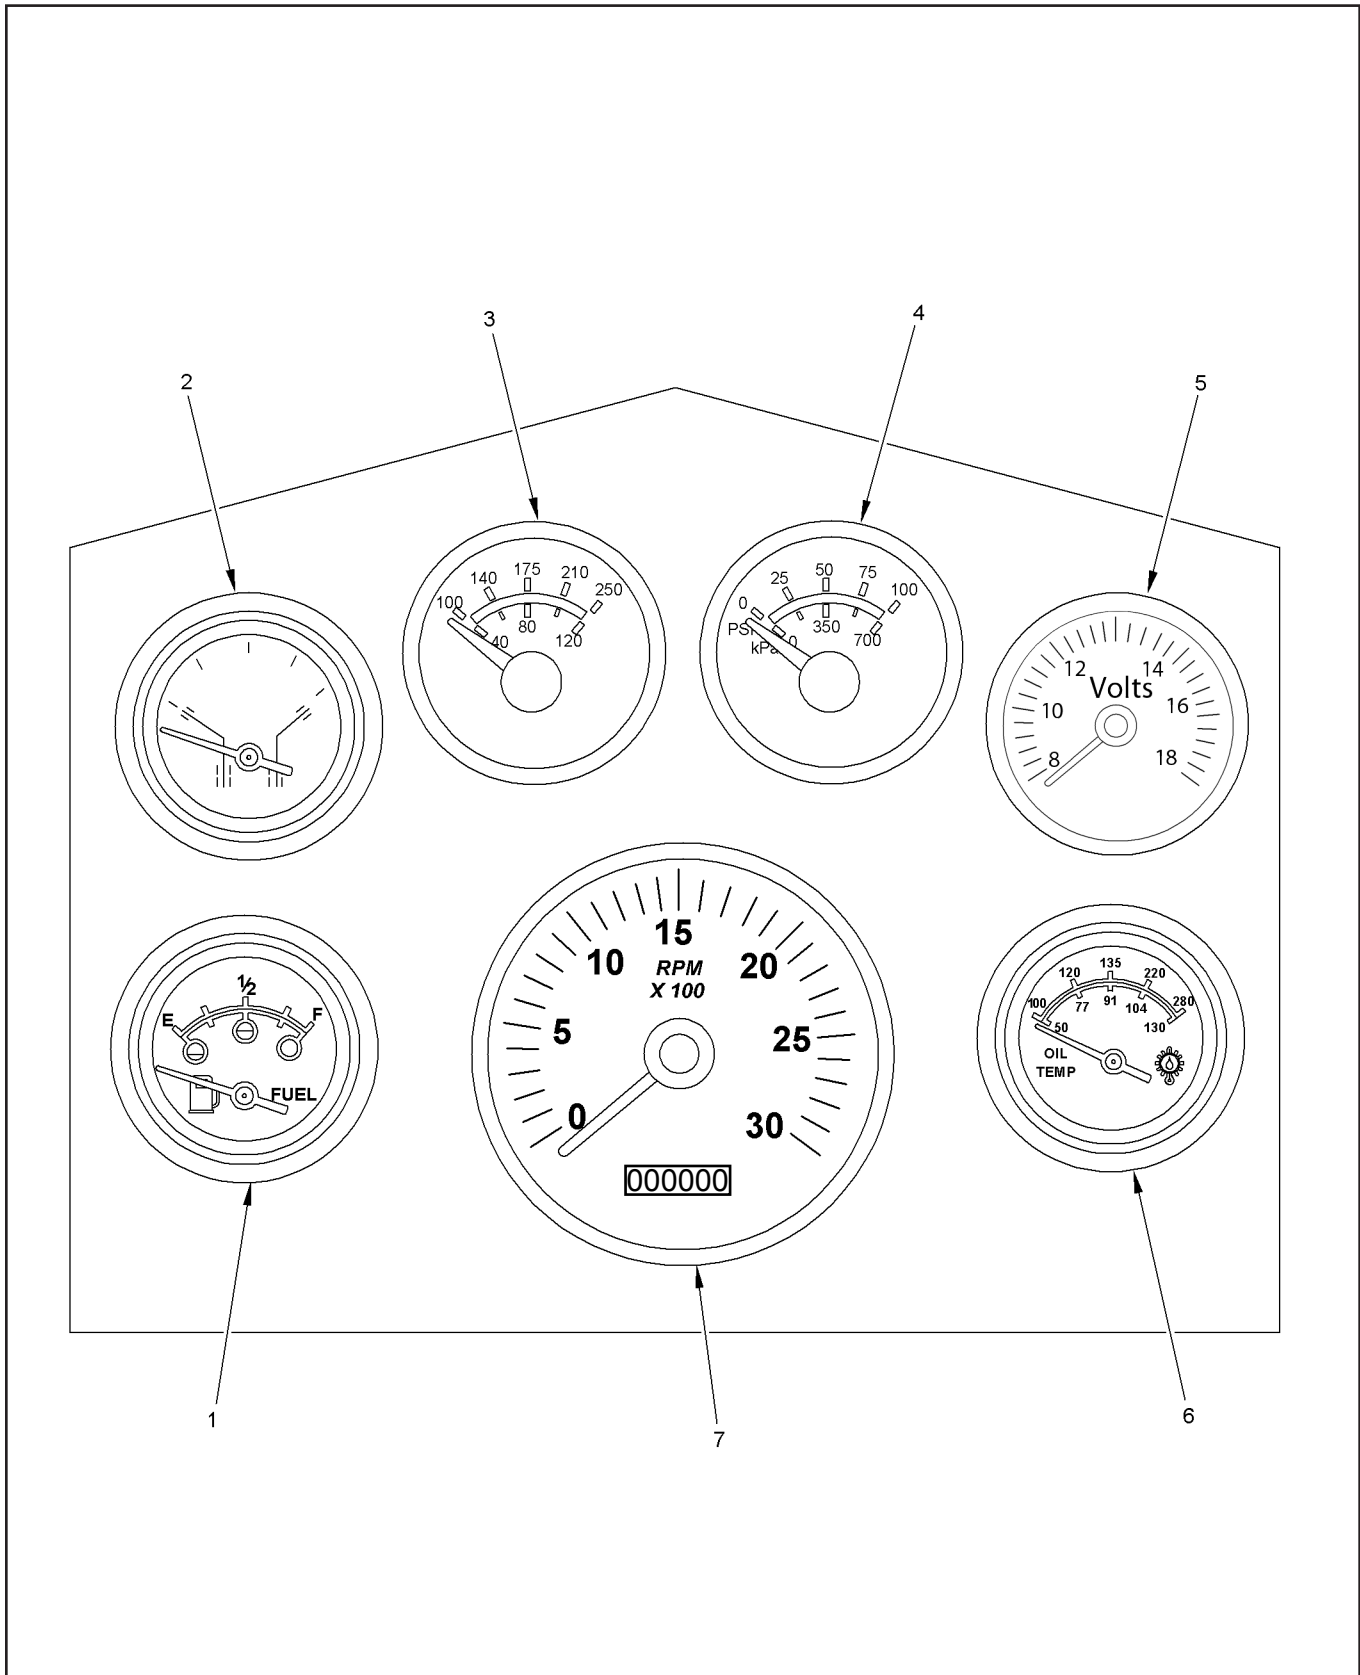

Figure 5-3. GAUGE PANEL
*Table 5-3. GAUGE PANEL (see Figure 5-3)*